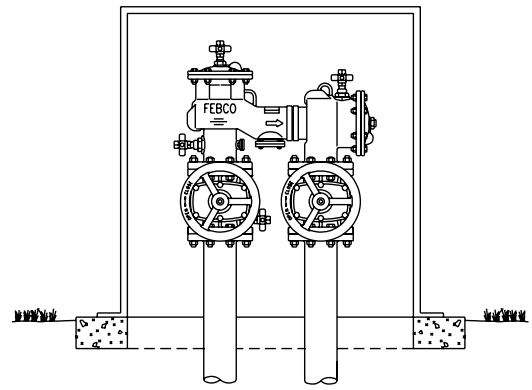

Figure 4
- Install a protective enclosure to discourage vandals. When opting for an enclosure, install the protective cover so that adequate clearance is available for maintenance and testing. Consult local codes before installing any type of protective enclosure. (See Figure 4.)